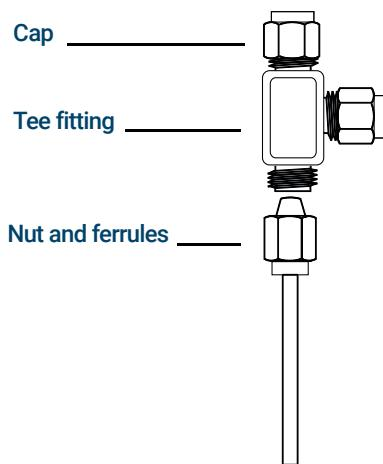

Figure 58. Swagelok tee
- 1 Cut the tubing where you want to install the Tee. Connect the tubing and Tee with a Swagelok fitting. See **Figure 58**.